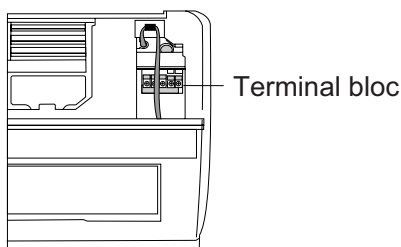

Fig. 4.11
2. Open front panel of the indoor unit by loosen the screws according to picture Fig.4.11, which provide big space for wiring connection.